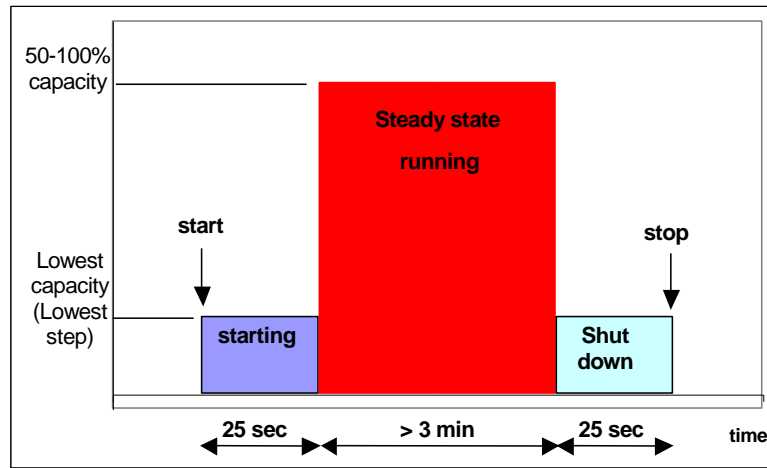

Fig. 26: starting and stopping the compressor;
To limit the peak current when starting, the electric motors are started in the part-winding configuration, or alternatively with the windings connected in the star configuration (see chapter 6: 'Electrical devices'). This, however, means also a drop in the starting torque, and as a result the resisting torque needs to be reduced in order to start the compressor without excessively overloading the electric motor. For this purpose, SRMTEC recommends to start the compressors at the minimum capacity step, see Fig. 26. Concerning the RS3 series compressors, distinction needs to be made between the step and the stepless configuration.
For this reason, so as to stop and re-start the compressor at the minimum capacity step the valve (14) must be energized for around 25 seconds before switching off the compressor, see Fig. 26. Moreover the valve (14) should be kept energized during the compressor standstill periods.
The starting and stopping procedure indicated in Fig. 26 has to be followed for all the screw compressors, both in the step and in the stepless version, as this avoids noisy stopping due to the temporary reverse rotation with high mass flow.